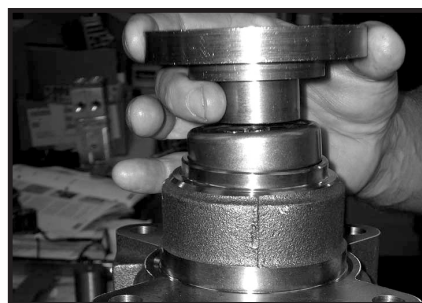

Figure 29
Torqmotor™ housings require the use of the bearing mandrel shown in figure 2 to press bearing (19) into the housing to a required depth of .290/.310 inches (7.37/7.87 mm) from the outside end of the bearing counterbore. SEE FIGURE 29.